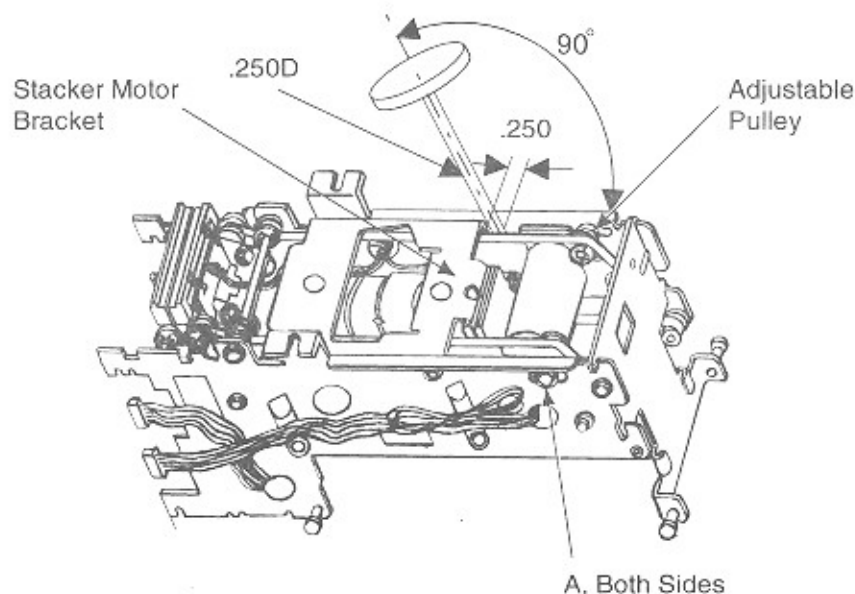

Figure 4-5. Timing Belt Tension Adjustment
Refer to *Figure 4-5* for adjustment locations and the precision adjustment illustration.
If this general adjustment procedure is not satisfactory, you may use the following precision adjustment procedure (*Refer to Figure 4-5*):
3. If the tension is not correctly set, loosen the screw(s) (A) in *Figure 4-5* so that the pulleys move freely in their slots. Adjust the pulley(s), tighten the screw(s), and recheck the belt deflection.